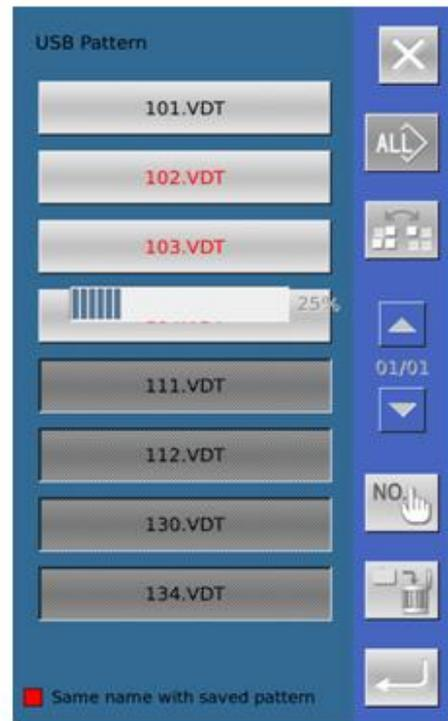

Figure 2
<p>⑧ Press button A to enter the interface for inputting patterns from U Disk</p> <p>Note: If the pattern in U disk has the same name to the pattern within the panel, the pattern number will be displayed in red. The pattern with red code can only be inputted with button F, as shown in figure 1</p> <p>A、Use 【Up Arrow】, 【Down Arrow】 to turn the page</p> <p>B、Use these three methods to select patterns</p> <ul style="list-style-type: none"> <li>➤ Press  to select all the patterns</li> <li>➤ Press  to select in contrary way</li> <li>➤ Input Pattern Number</li> </ul> <p>C、Press  to finish pattern input. At this moment, the patterns inputted and the patterns selected share the identical pattern number, as shown in figure 2</p>	 <p style="text-align: center;">Figure 1</p>